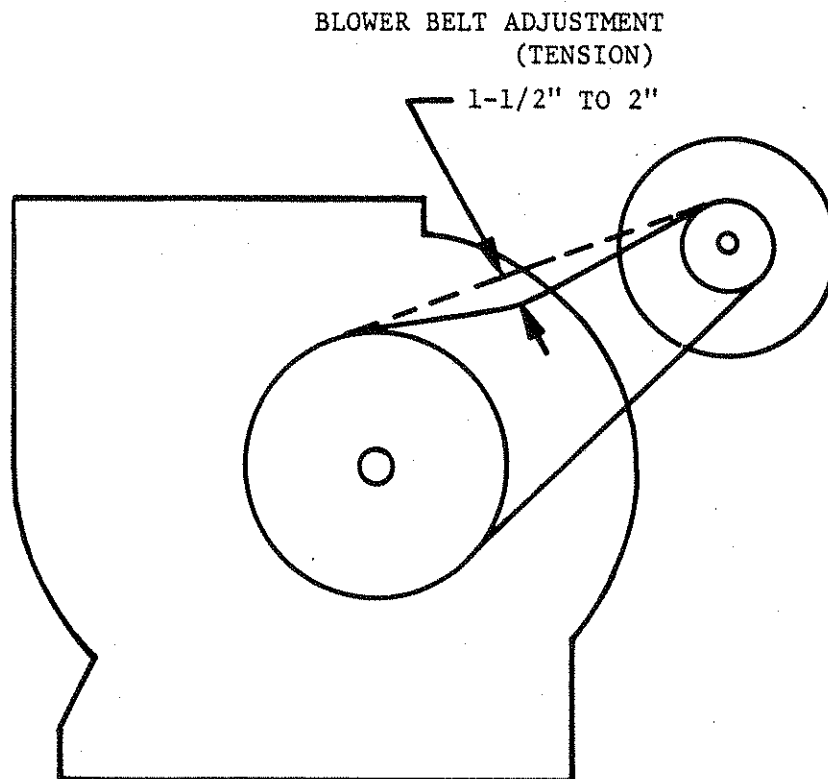

Figure 2-6. Blower Belt Tension Adjustment
- c. Rotate blower manually to be sure impeller is free-turning with no obstructions present. Check blower belt tension in accordance with figure 2-6.